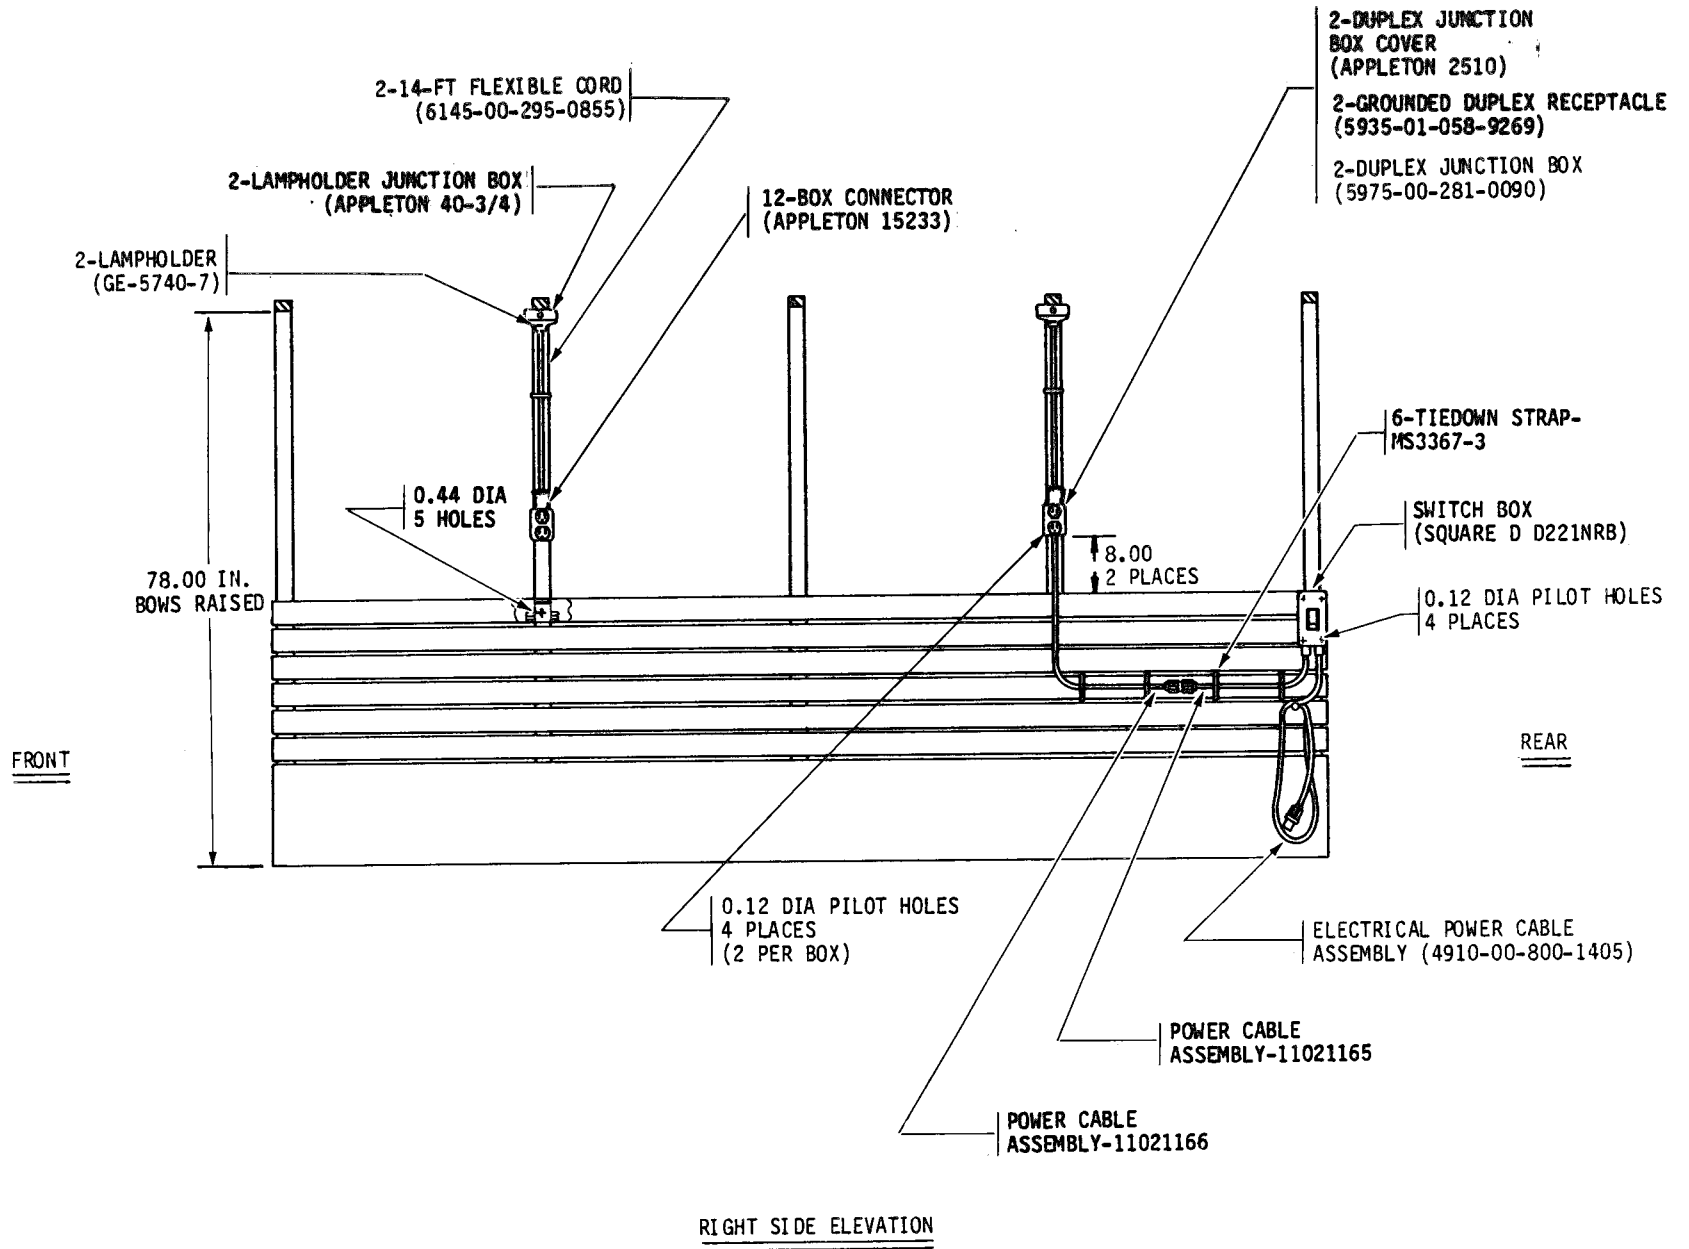
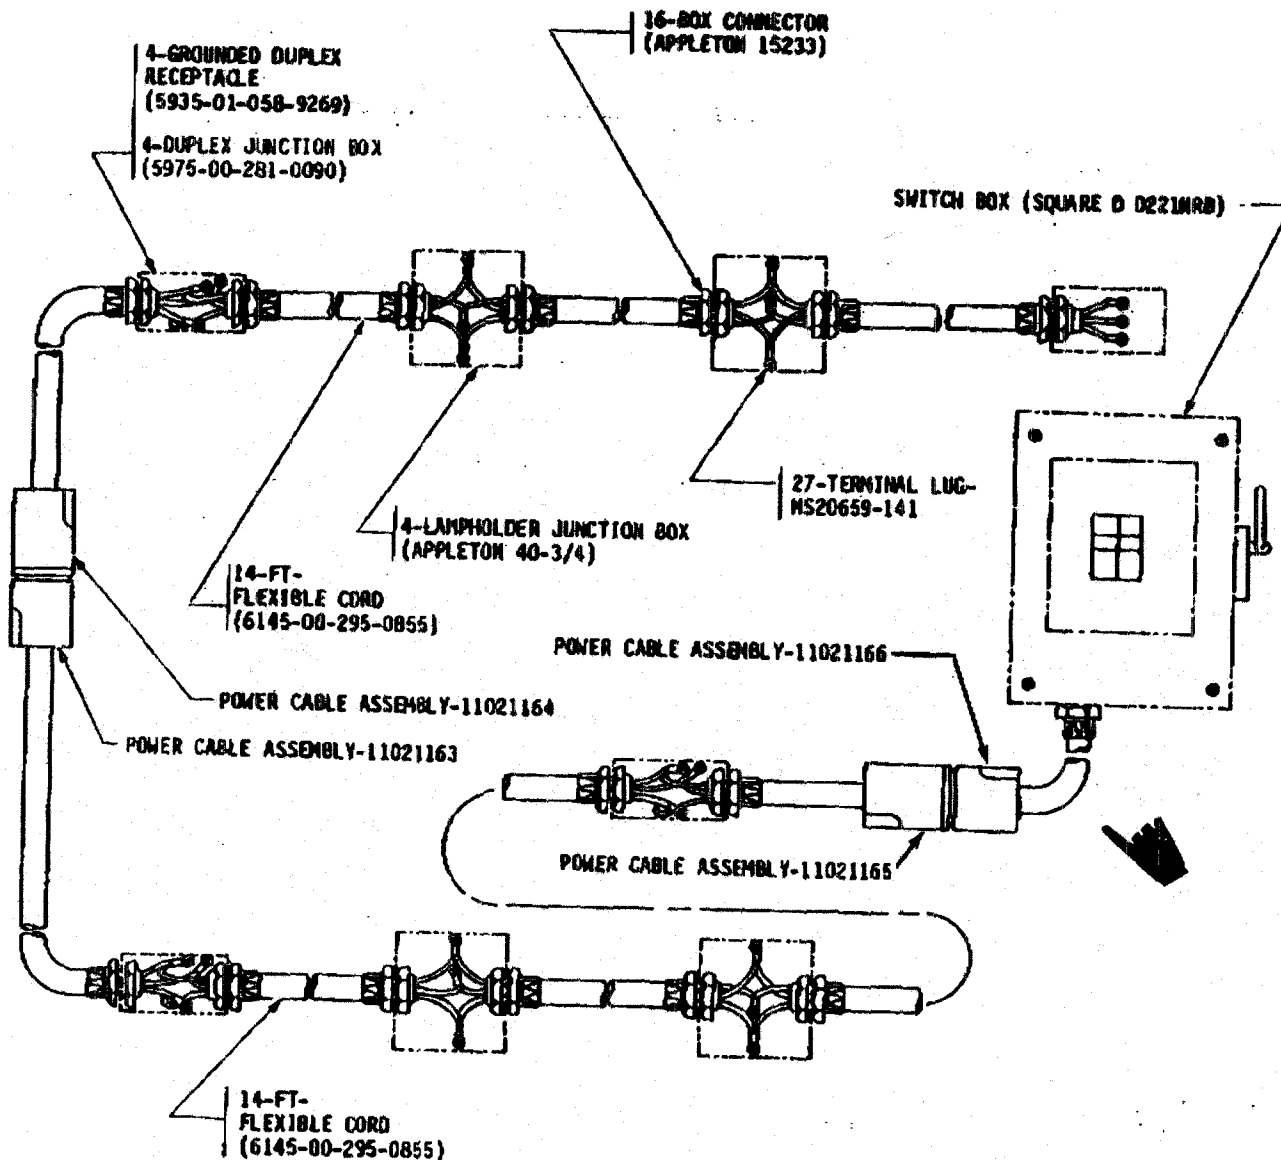

Figure 22. Electrical components to be mounted, unit 2, M35A2, right side elevation.
Figure 24. Electrical schematic, unit 2, M35A2.
g. Follow steps (1) thru (14) below for electrical component installation in unit 2, M35A2 cargo truck.
(1) To provide sufficient head-room for personnel to work in the M35A2 cargo truck, raise the bows 18 inches and drill ten 0.44-in. diameter holes through bow sockets and bows in accordance with figures 22 and 23.
(2) Secure bows in place with ten 7/16- x 1-3/8-in. hex head capscrews (MS90725-88), ten 7/16-in. lockwashers (MS35338-47), and ten 7/16-in. hex nuts (MS51967-11).
(3) Position switch box (Square D D221NRB) on the two top slats in accordance with figure 22. Using holes of switch box as a template, mark and drill four 0.12-in. diameter pilot holes. Secure switch box to truck slat with four #10 x 1-in. thread forming screws (MS51861-49).
(4) Install electrical power cable assembly (4910-00-800-1405) through box connector in bottom of switch box and connect to circuit breaker inside switch box in accordance with figure 22.
(6) Position four duplex junction boxes (5975-00-281-0090) on bows as shown in figures 22 and 23. Mark and drill eight 0.12-in. diameter pilot holes and secure duplex junction boxes to bows with eight #10 x 1-in. thread forming screws (MS51861-49).
(7) Remove two knockout slugs from each lampholder junction box and
each duplex junction box in line with bows. Install twelve box connectors (Appleton 15233) in the junction boxes and install jam nuts on connectors in accordance with figure 24.
(9) Install a 28-foot length of flexible cord (6145-00-295-0855) through duplex junction boxes and lampholder junction boxes on second and fourth bows. Refer to figure 24. Strip a 3-inch length of outside insulation from flexible cord on inside of each junction box. Strip 1 inch of insulation from each individual wire and twist wire to fit terminal lugs (MS20659-141). Install and crimp terminal lugs in place in accordance with figure 24.
(10) Connect three wires to one lampholder (GE-5740-7) and secure to lampholder junction box (Appleton 40-3/4) with screws provided with lampholder junction box. Repeat this step for the remaining three lampholder junction boxes. Refer to figures 22 and 23.
(11) Install four grounded duplex receptacles (5935-01-058-9269) after stripping 3 inches of outside insulation from flexible cord. Refer to figure 24. Strip 1 inch of insulation from each individual wire and twist wires to fit terminal lugs (MS20659-141). Install terminal lugs and crimp. Connect wires to grounded duplex receptacles and secure grounded duplex receptacles to duplex junction boxes with screws provided with grounded duplex receptacles in accordance with figures 22 thru 24.
(12) Install four duplex junction box covers (Appleton 2510) on duplex junction boxes (5975-00-281-0090) and secure with screws provided in duplex junction box covers. Refer to figures 22 thru 24.
(13) Tighten all box connectors (Appleton 15233) to secure flexible